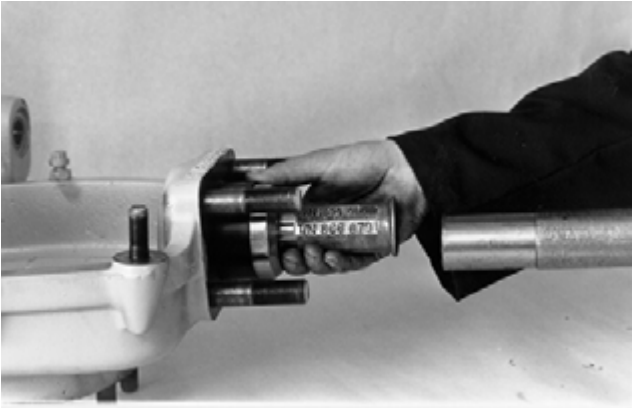

Figure 15
3. Place the lower kingpin plate in the suspension yoke and drive in the bearing and seal after it. Both upper and lower kingpin seals must be installed in their bores w/grease lips facing outward. If the upper kingpin bearing has been removed, install the new part using either a pusher plate or the old part as a driver. See Figure 15. If necessary, install a new upper kingpin seal against its